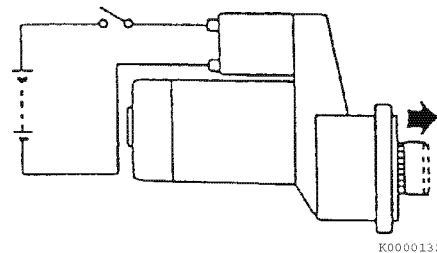

Figure 11-33
4. Turn the switch ON and measure the pinion moving distance L in the thrust direction (**Figure 11-33**). Perform this test within 10 seconds. See *Starter Motor Specifications* on page 11-5 for the service limit.